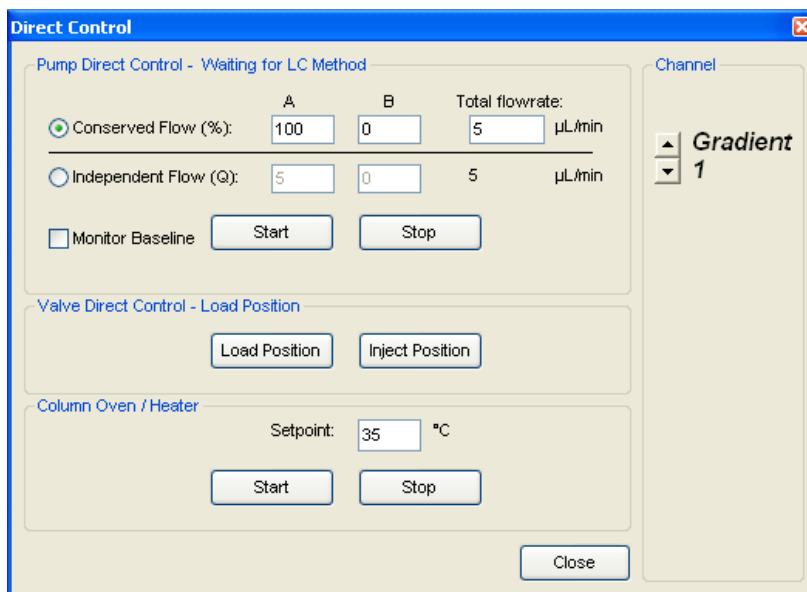

Figure 3-6 Direct Control Dialog—Flow Rate Check
3. Select **System > Direct Control** from the Eksigent control software **Acquisition** window to display the Direct Control dialog (Figure 3-6).